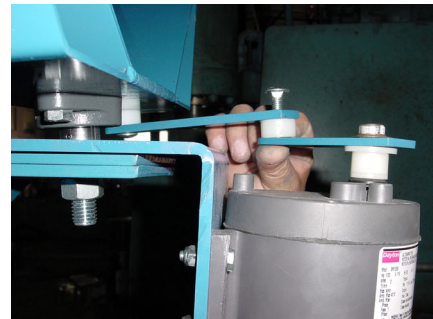

Figure 2
4. The next step is to fasten the linkage on the yoke with the linkage on the motor. Use the supplied fastener. See Figure 2.